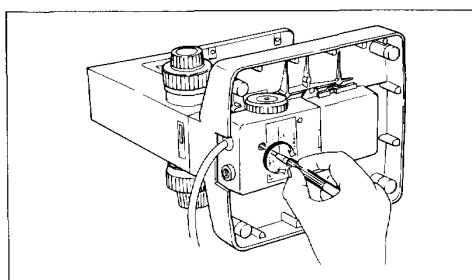

Fig. 14
- ① Adjust the resistance compensator in the illuminator by means of a screw driver, so that the lamp slightly lights when the brightness control, dial is turned ON, that is, the illuminating light appears somewhat red. (Fig. 14)